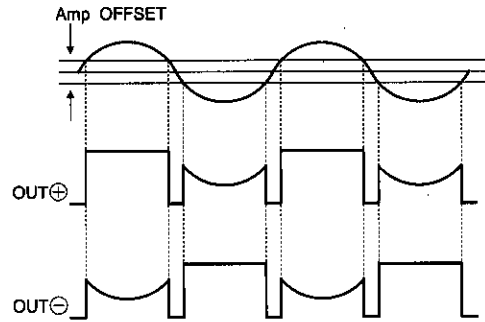

Fig.5
3. Output waveforms are shown in Fig. 5. Because of the amplifier offset, the output is left OPEN when the output signal switches from positive to negative. The output waveform is determined by the external circuit because the IC impedance increases during this transition period. Since inductive loads are usually provided, a capacitor should be connected to suppress the backlash voltage.